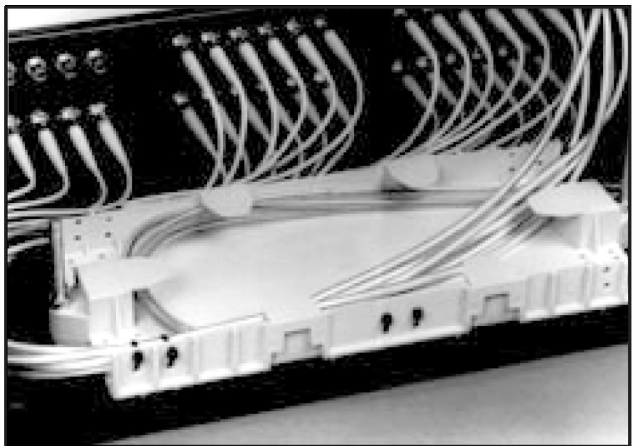

FIGURE 7 - ROUTE FIBERS IN TRANSITON ASSY
8.01 Route the fibers of the feeder cable fibers and the Pigtail Tube Assemblies within the Transition Assembly so that they will exit at the front left corner of the Transition Assembly. (Figure 7)
8.02 Use two tie wraps to gently secure the Pigtail Assemblies to the back right side of the Transition Assembly. (Figure 7)